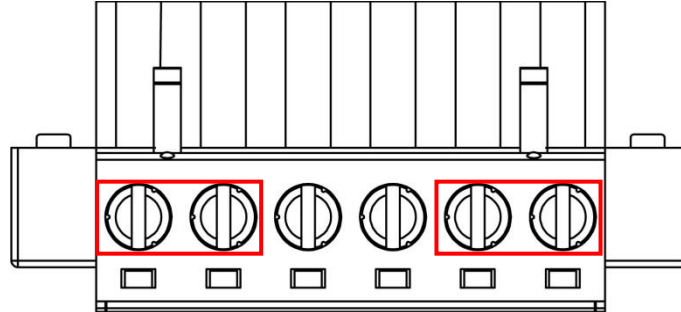

Figure-7: Terminal Block Top View
2. Tighten the wire-clamp screws which as shown in the **Figure-7** for preventing the wires from loosing.